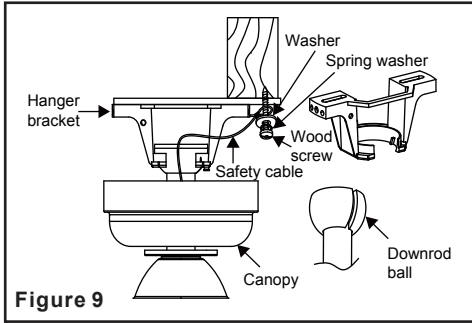

Figure 9
Step 4. Place the downrod ball into the hanger bracket socket (Fig.9). Make sure the hanger ball is seated in the groove on the hanger bracket. Drive a wood screw and washers into the side of the brace that holds the outlet box. Leave 3mm (1/8") of space between the support brace and the washer. Insert the safety cable through the hanger bracket and one of the holes in the outlet box into the ceiling. Adjust the length of the safety cable to reach the screw and washers by pulling the extra cable through the cable clamp until the overall length is correct, put the end of the cable back through the cable clamp, forming a loop at the end of the cable. Tighten the cable clamp securely. Now, put the loop in the end of the safety cable over the wood screw and under the washer. Tighten the wood screw securely.(Figure 9)